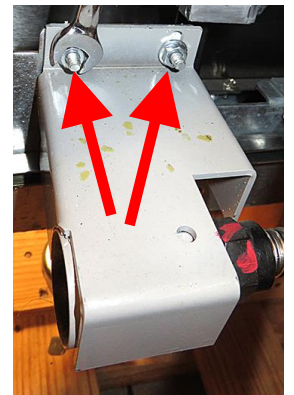

Figure 11
13. Use a 7/16" wrench to remove the two (2) nuts securing the female pick-up tube bracket (see Figure 11).